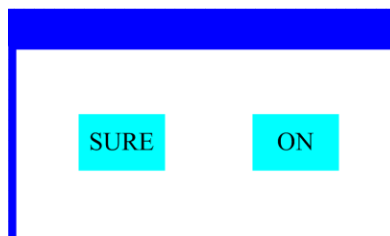

Figure 5 Dialog of confirm
- When the parameter is a key item, chlick corresponding item, a dialog shown in Figure 5 will been popup ask for the confirm. Chlick 'sure' to confirm.